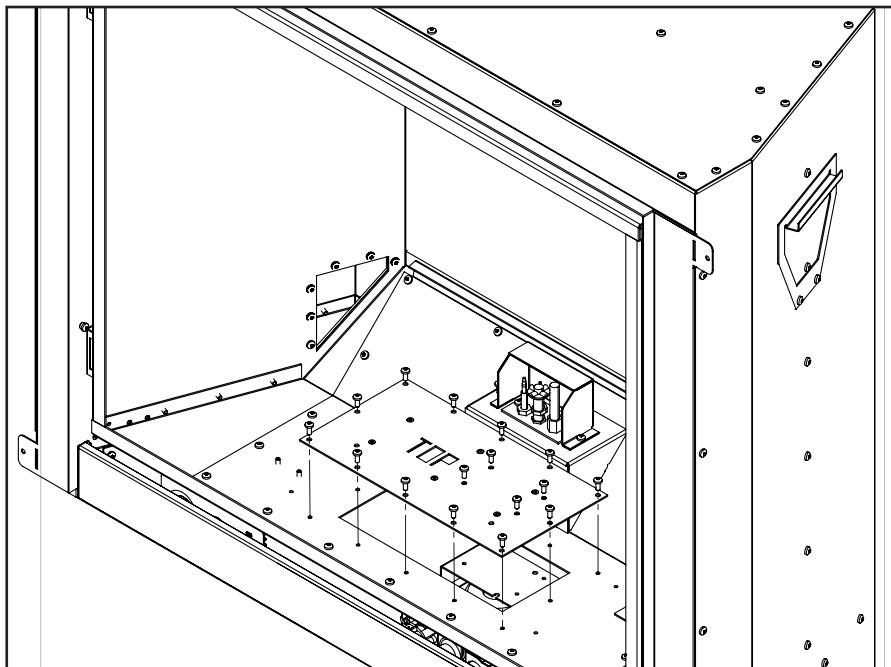

Figure 12. Removing Access Door
**Step 2:** Remove the Upper Air Diverter by removing (2) T-20 bolts. Remove the Lower Air Diverter.
**Step 3:** Remove the right and left burner stands by removing (4) T-20 bolts.
**Step 4:** Remove the (16) T-20 bolts retaining the access door as shown in Figure 12.